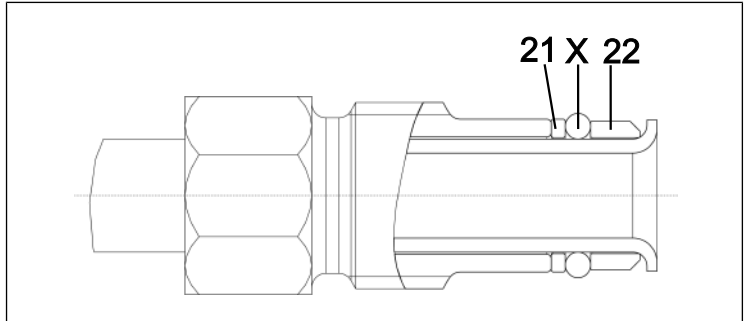

Fig. 18: Correct position of O-ring
i When changing the O-rings, make sure that the new O-rings are positioned correctly (between sleeve (22) and sliding washer (21); see Fig. 18).